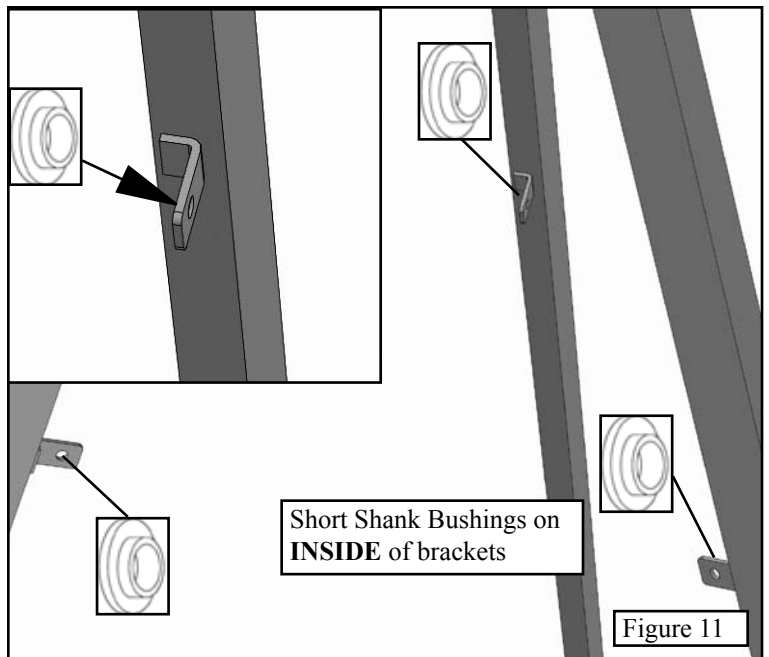

Figure 11
Step 1. Position the Predator Pod as shown in **Figure 11**. Insert three short shank bushings to the inside of the welded on L-Bracket as shown in **Figure 11**.